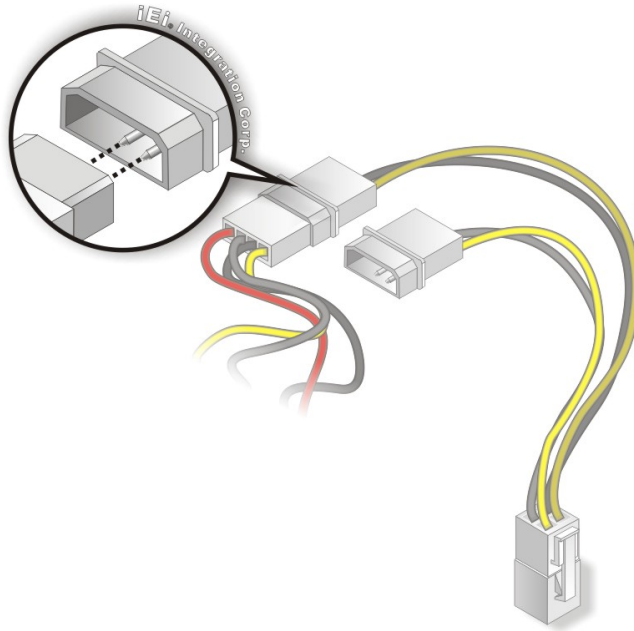

Figure 4-19: Connect Power Cable to Power Supply
Step 3: Connect power cable to power supply. Connect one of the 4-pin (1x4) Molex type power cable connectors to an AT power supply. See Figure 4-19.